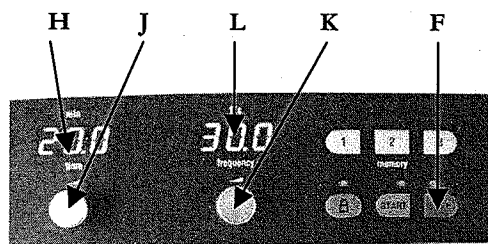

Fig.3
- The LED above STOP F flashes briefly after the machine has been turned on. Fig.3
Set time to 10 sec - 99 minutes: Fig.3
Set frequency to 3 - 30 Hz: Fig.3